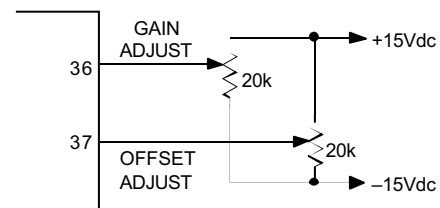

Figure 2. External Adjustment
- Offset and gain adjustments are made by connecting two 20k trim potentiometers as shown in Figure 2.